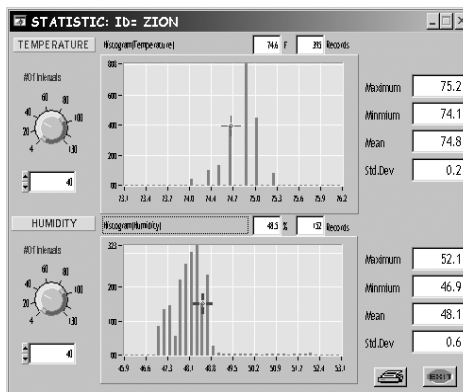

FIGURE 4
- Use the mouse to adjust the yellow knobs (left side of Statistics screen shown in Figure 4) to equally divide all readings into divisions (up to 130 divisions are possible). This can also be done by clicking the up/down arrows or by keying in the value directly.